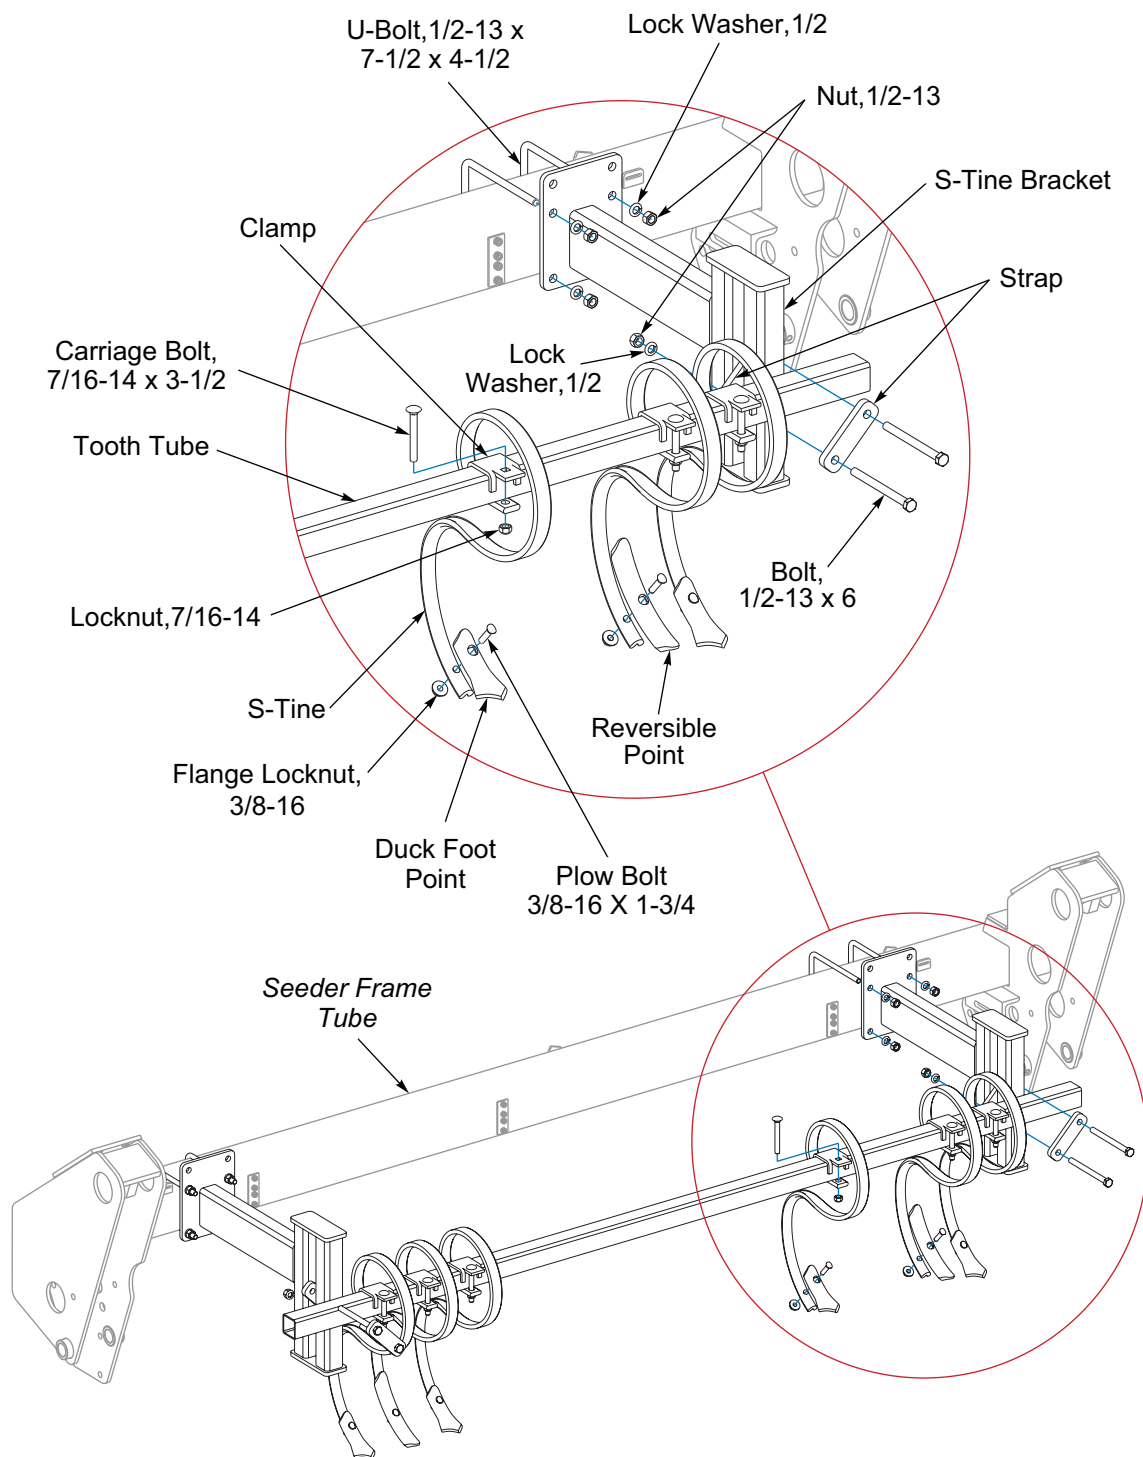
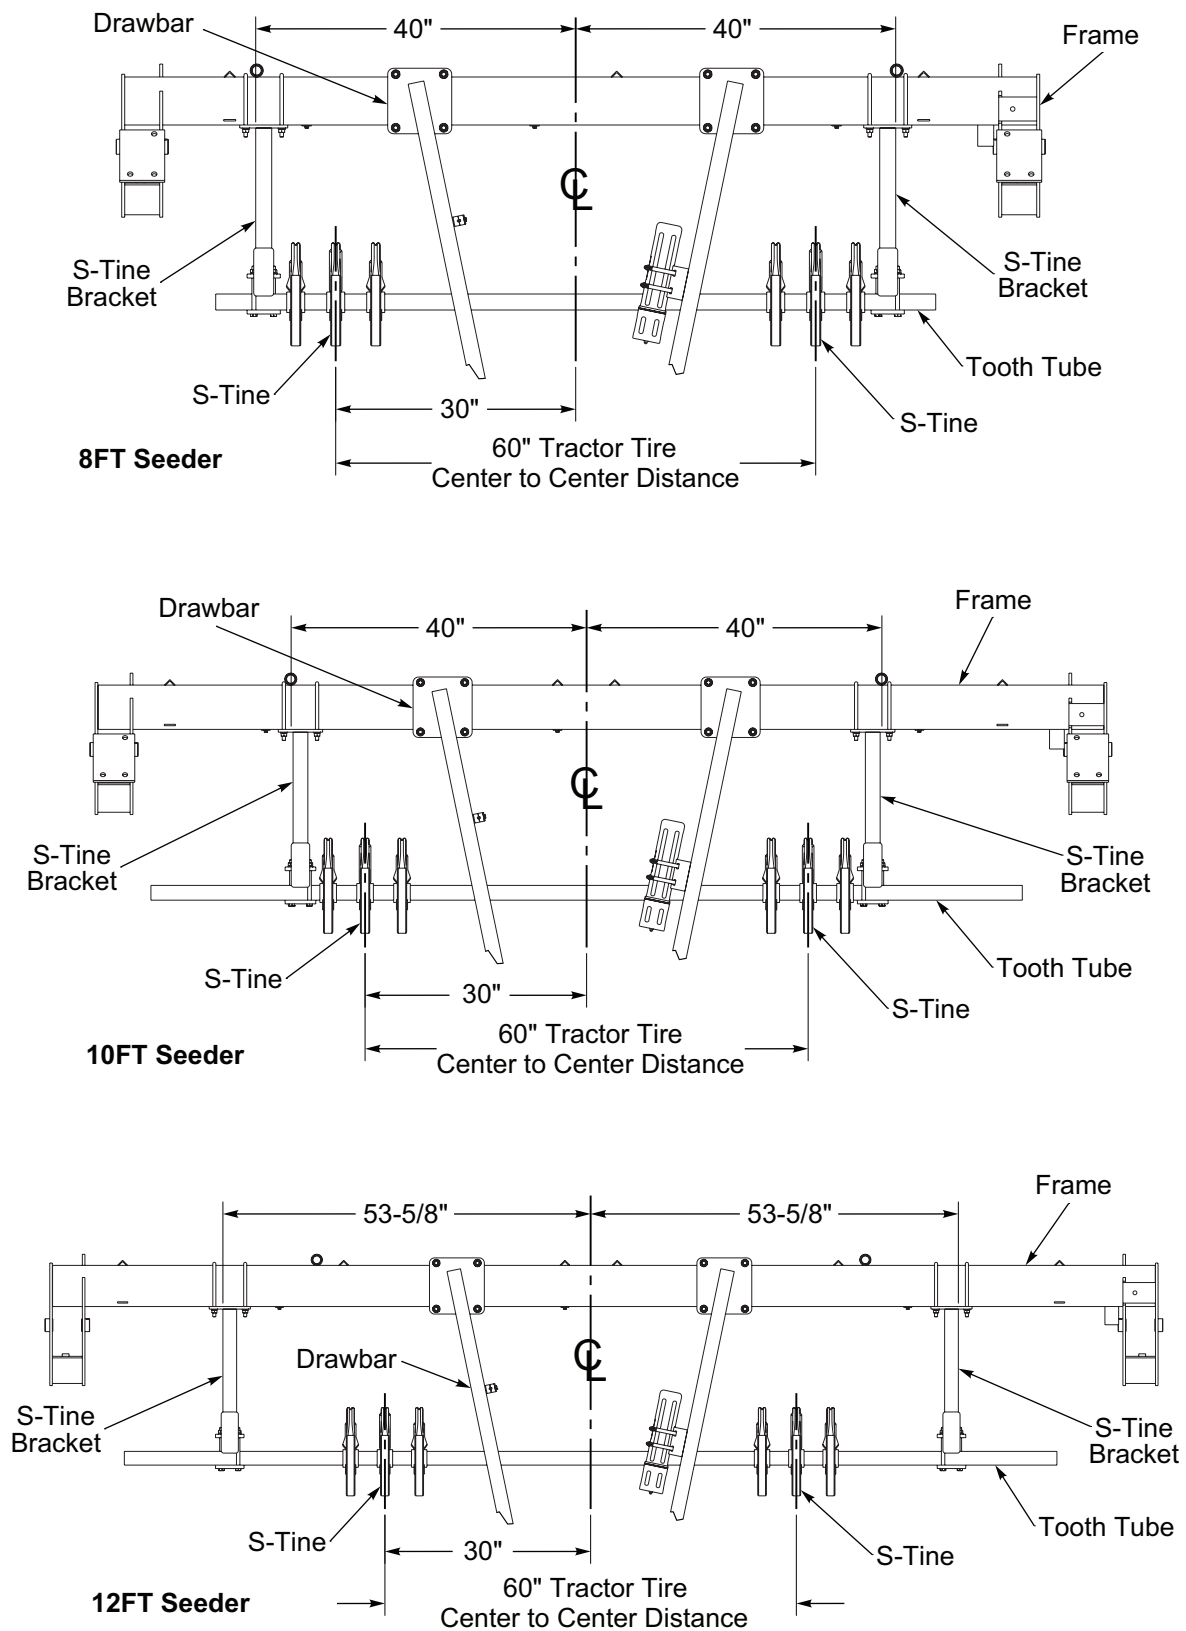

Figure 2-57: S-Tine Track Remover Kit - Optional
Figure 2-58: S-Tine Mounting Dimensions
*S-Tine Brackets and S-Tines should be positioned per application. Use **Figure 2-58** only as a reference.*
1. Center and position the S-Tine Brackets in relationship with the center of the Drawbar or 3-PT Hitch to the front of the Seeder Frame Tube. **See Figure 2-58.** Secure S-Tine Brackets to the Seeder Frame Tube with 1/2-13 x 7-1/2 x 4-1/2 U-Bolts, Lock Washers and Nuts. **See Figure 2-57.**